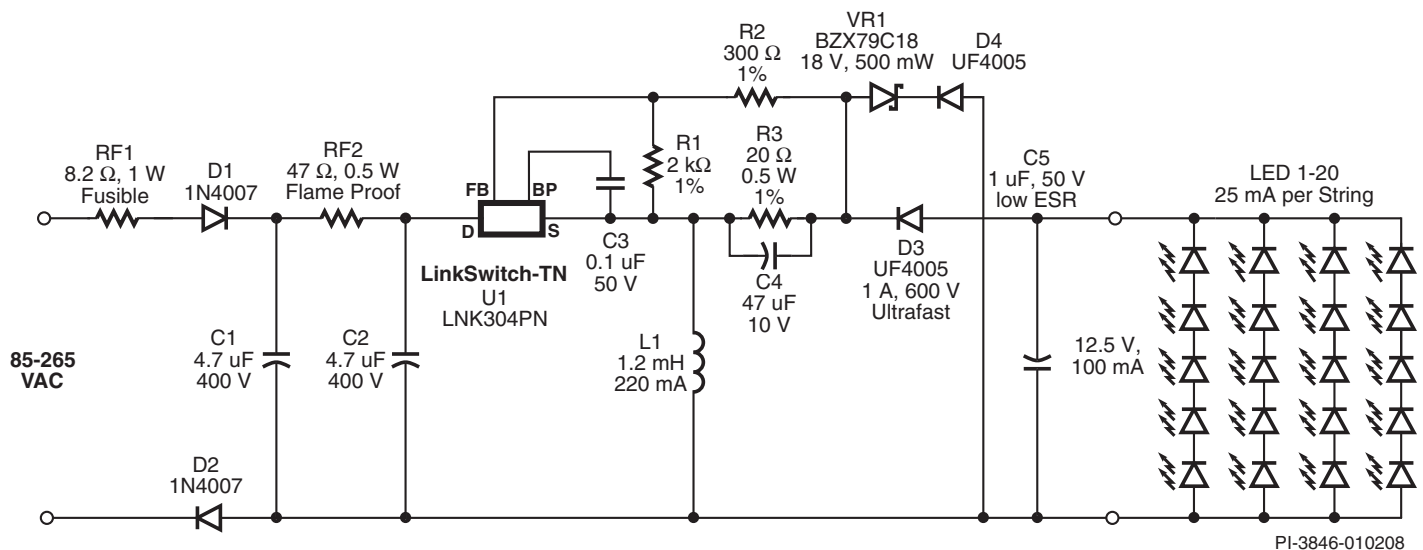

Figure 1. Schematic of a 1.25 W, 12.5 V, 100 mA Constant Current LED Driver, Using a Non-Isolated Buck-Boost Topology.
Using the Buck-Boost topology, the circuit shown in Figure 1 generates a non-isolated constant current (CC) output for driving LEDs. Typical uses include night-lights, neon sign replacements, emergency exit signs or any application utilizing LEDs for lighting.
- The circuit shown in Figure 1 has a total output current tolerance of  $\pm 12\%$  (including  $\Delta t$  of 50 °C).